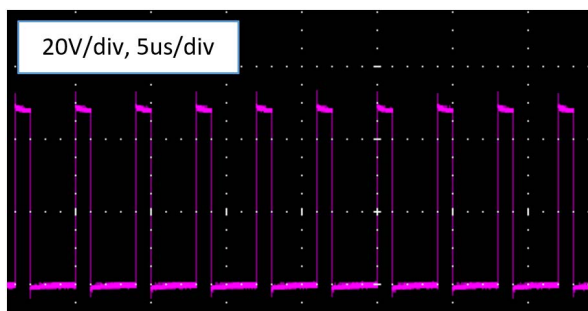
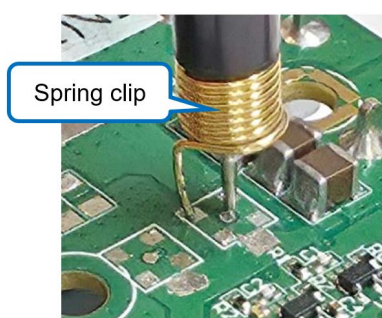
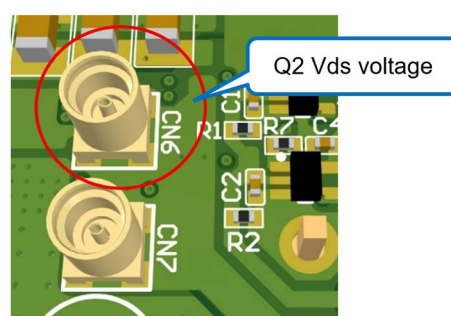

Figure 19. Vds Voltage Waveform
Figure 20. Passive Probe
Figure 21. MMCX Jack
4. Making sure the initial main power supply voltage is 0V, turn on the power and slowly increase the voltage to DC48V. The Vds voltage waveform of the low-side GaN FET Q2 is shown in the Figure 19. The same methods can be used to measure the Vds voltage at Q2 as shown in Figure 20 and Figure 21.